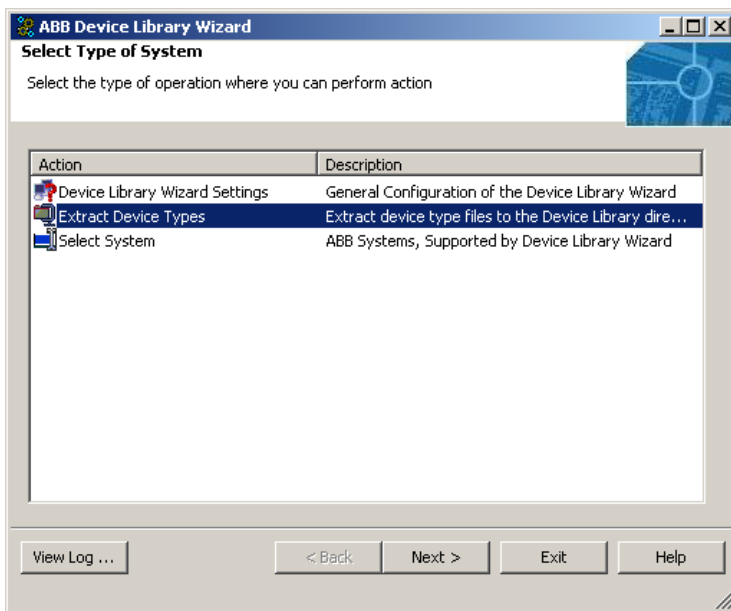

Figure 61. Select Extract Device Types
1. From the **Start** menu, select **(All) Programs > ABB Industrial IT 800xA > Device Mgmt > ABB Device Library Wizard**. The Device Library Wizard screen, similar to the one shown in Figure 61 opens.